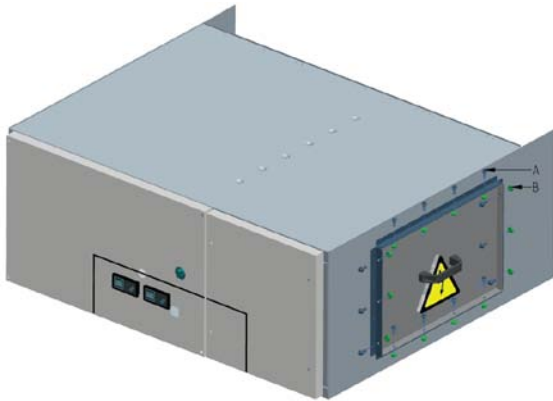
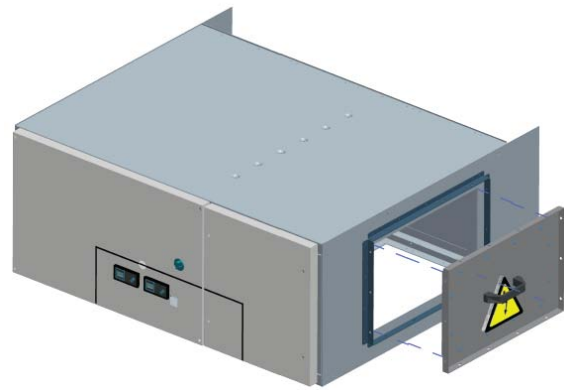

Figure 23: Disassembly of the access hatch
Figure 24: Remove access hatch
In order to have access to the bus bar and the fixation points of the cubicle, the access hatches on both sides should be disconnected. Therefore, the self-securing hexagon flange bolts (A) and self-securing flange nuts (B) should be loosened (Figure 23). The access hatch can now be removed (Figure 24).